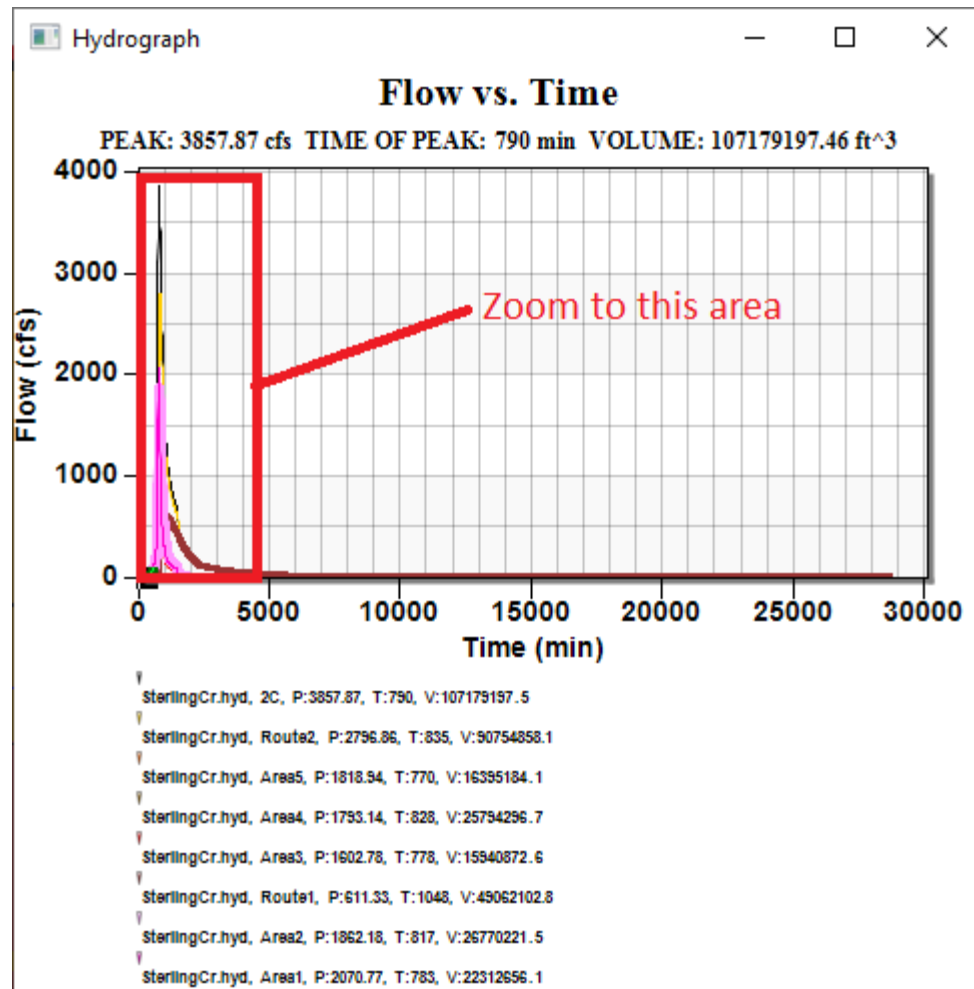

Figure 7 Zooming to the hydrograph
3. If desired, resize the window to make it larger and left-click and drag in the hydrograph plot to zoom into the portion of the hydrograph where the peak flows occur as shown in Figure 7.